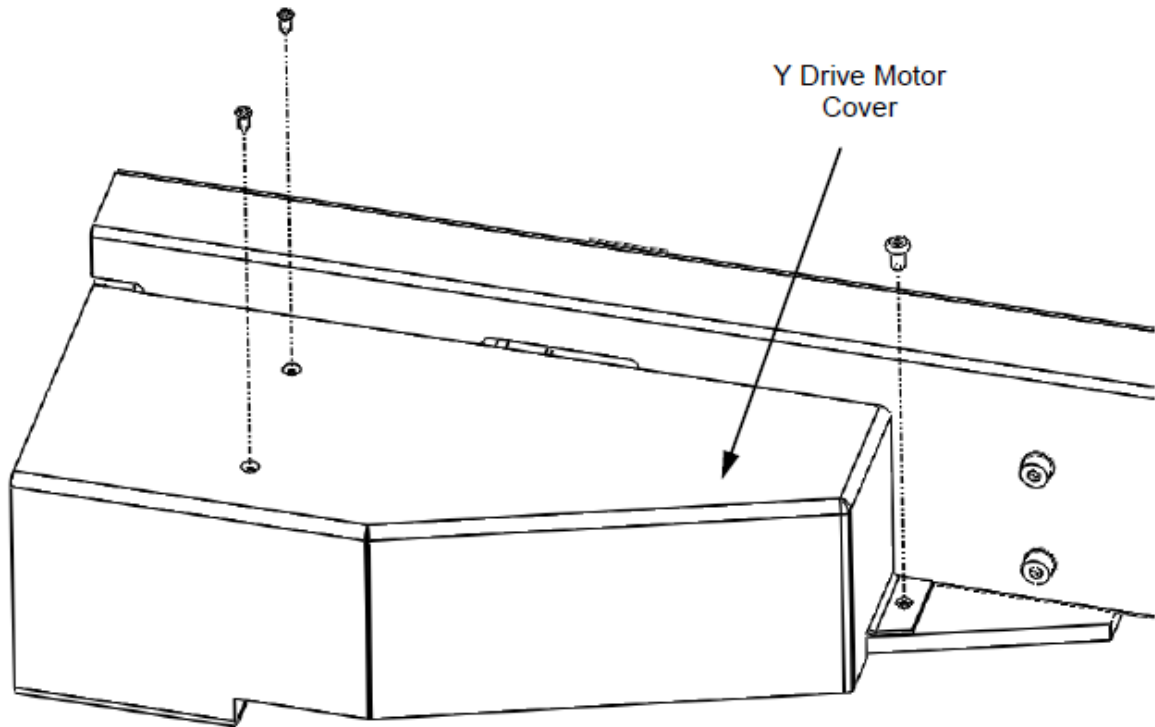

Figure U-2: Removal of Y Drive Motor Cover
1. Remove the Y Drive Motor Cover (Figure U-2).